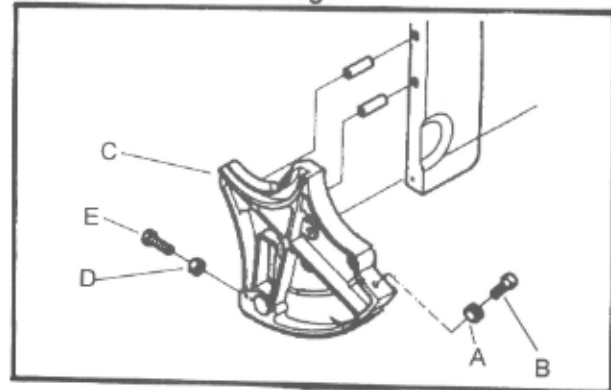
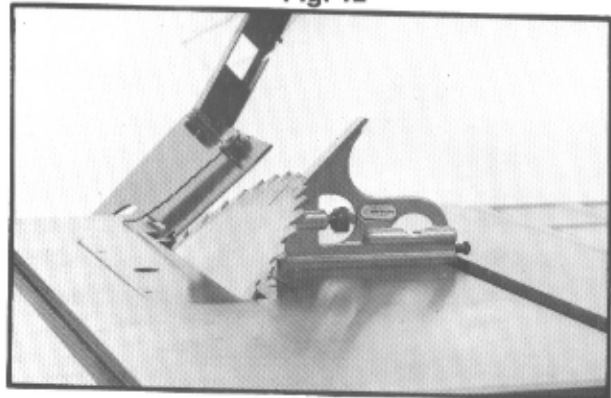

Fig. 12
Fig. 13
5. If blade is not at 90 degrees, open the motor cover door, loosen lock nut (A, Fig. 12) and turn adjusting stop screw (B, Fig. 12) on the front trunnion (C, Fig. 12) in or out. The adjusting stop screw (B, Fig. 12) should stop against the front trunnion bracket when the blade is 90° to the table.
6. Tighten the lock nut (A, Fig. 12).
7. Place a square on the table after turning the blade to the 45° stop (Fig. 13). If the 45° positive stop is not set properly, follow the same procedure using lock nut (D, Fig. 12) and screw (E, Fig. 12).